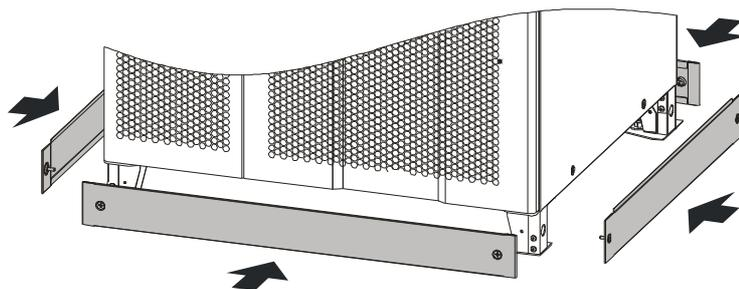

Figure3-16 Install bottom cover plates
Step 5 Take out the bottom cover plates and install them to the front, rear, left and right with provided screw M6, as shown in Figure3-16. (Here take the BM33400 as an example.)